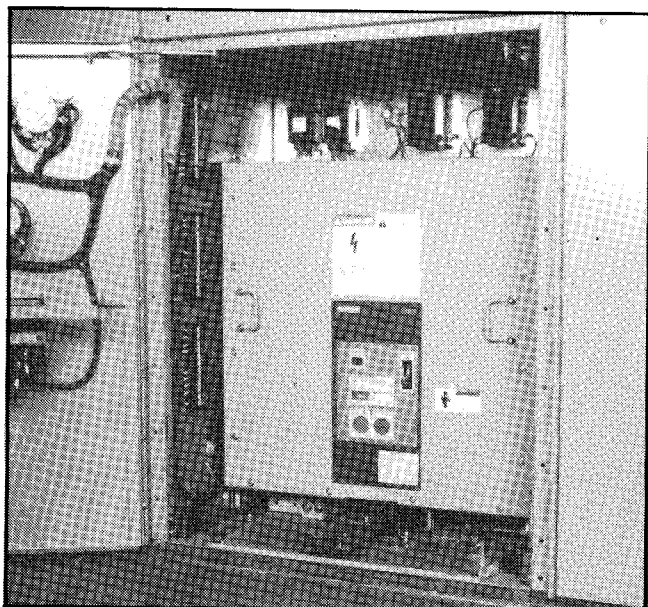

Figure 39. Outer Door of Switchgear Cubicle Open for Access to Breaker Controls.
1. The first step in the annual inspection procedure is to de-energize the circuit breaker. **Figure 39** shows the outer door of a standard switchgear cubicle opened for access to the operator panel of the circuit breaker.